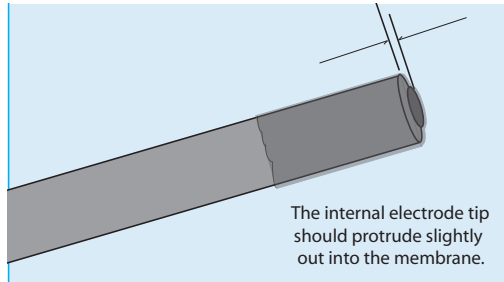

Fig. 6—Membrane placement. The internal electrode tip should protrude slightly out into the membrane.
8. Slowly and smoothly insert the electrode into the sleeve, and screw the locking cap into the handle. The electrode should be observed to press gently against the membrane (Fig. 6).